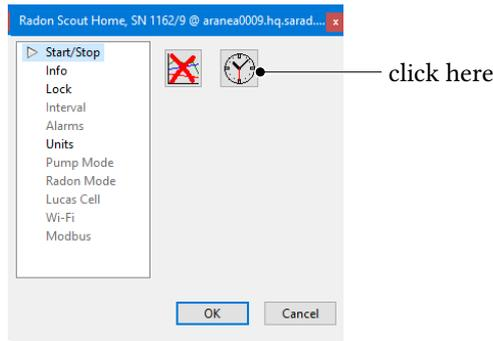

Figure 3.3.: Synchronisation of the clock of the measuring instrument with the PC
6. It is **necessary** to check the clock of the measuring instrument after every battery change and to set it if necessary (see Figure 3.3)!